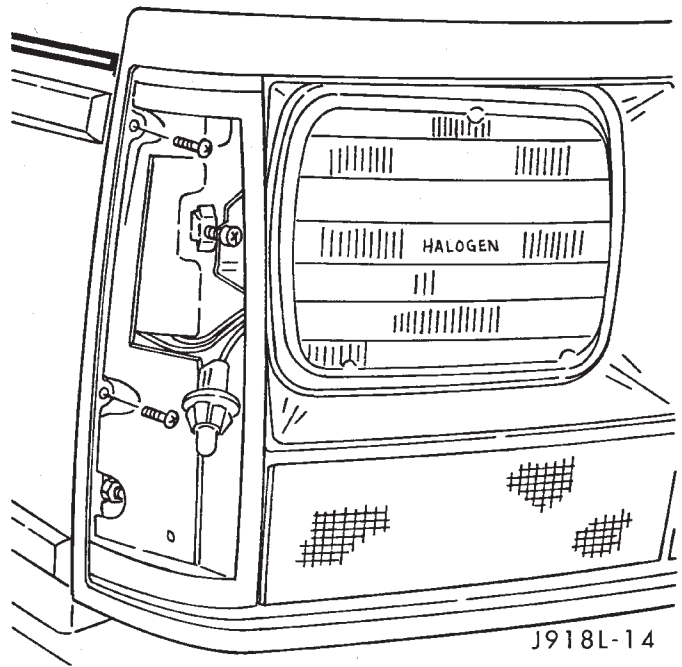

Fig. 20 Headlamp Bezel Removal/Installation
- (2) Separate the side marker lamp from the headlamp bezel and remove the screws from the headlamp bezel (Fig. 20).